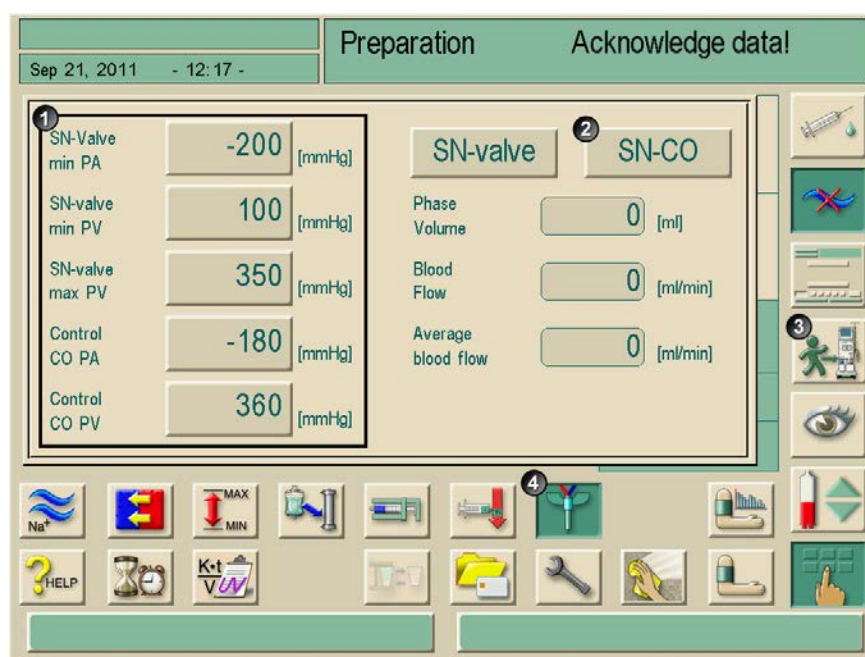

Fig. 9-2 Single-needle cross-over (SN-CO)
- Touch field **2** in SN-CO window (Fig. 9-2).